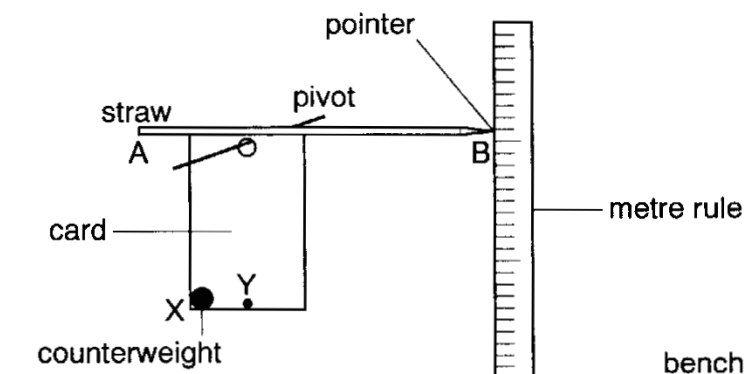
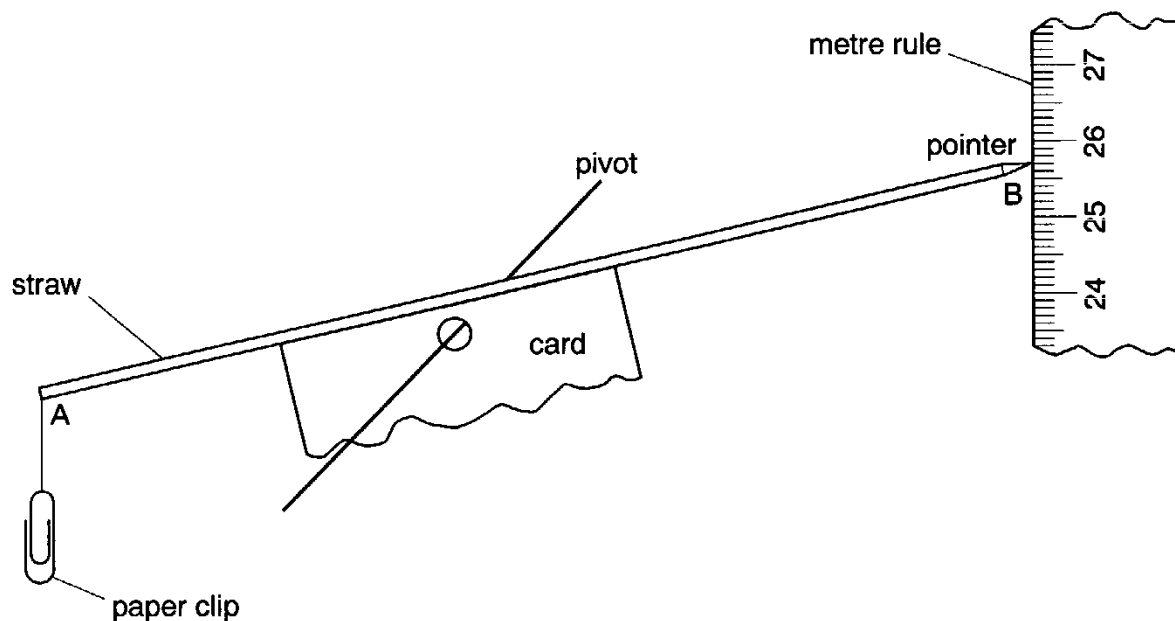

Fig. 5
Fig. 6
The lever balance shown in Fig. 5 was constructed from a straw AB fitted with a pointer at one end and a piece of card. The balance was supported on a pivot and the straw set horizontal by adjusting the position of a small counterweight. The height of the pointer was measured by using a metre rule placed beside the apparatus.
- (a) Describe how you would check that the metre rule was perpendicular to the bench. You may draw on Fig. 5
- (c) With the straw horizontal, as shown in Fig. 5, a small paper clip was attached to the end A of the straw. The balance came to rest as shown in Fig. 6. Write down the reading shown for the height of the pointer B.